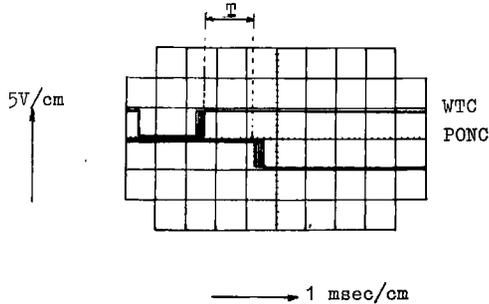

Fig 7-19
- 16) Do point 15 again, with the following scope connections. Trigger the scope positive, extern to signal \overline{EC} pin 13 of card DC. Connect channel A to signal WTC pin 27 of card HUP, and channel B to signal PONC pin 19 of card HUP. In all the areas, the signal WTC must stay a '1' after signal PONC goes to a '0', (seek error). The relationship between WTC and PONC is shown in fig. 7-19. The time T must be at least 1 msec.